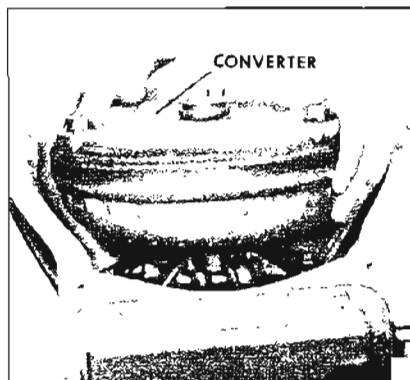

Figure 5-369
3. Install converter. See Figure 5-369.